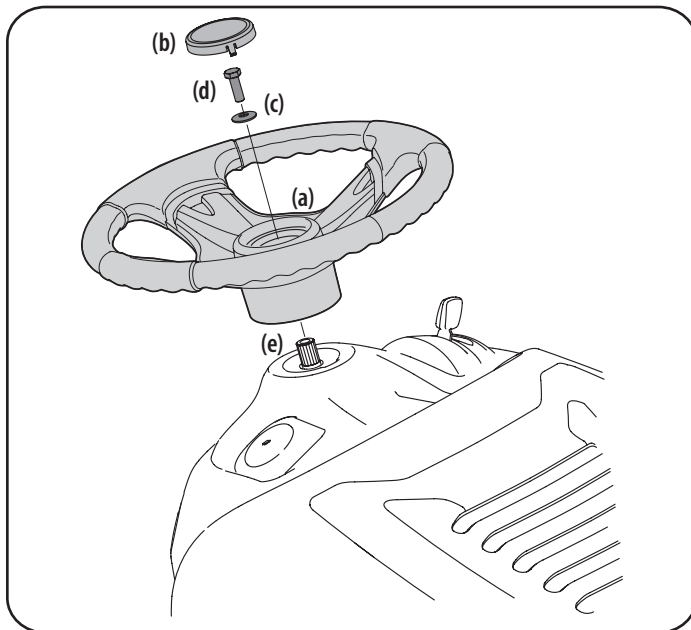

Figure 4
1. If the steering wheel (a) for your tractor did not come attached, the hardware for attaching it has been packed within the steering wheel (a), beneath the steering wheel cap (b). Carefully pry OFF the steering wheel cap (b) and remove the cupped washer (c) and hex bolt (d). See Figure 4.
2. With the wheels of the tractor pointing straight forward, place the steering wheel (a) over the steering shaft (e). See Figure 4.
3. Place the cupped washer (c) -- cupped side down -- over the steering wheel (a) and secure with the hex bolt (d). See Figure 4.
4. Place the steering wheel cap (b) over the center of the steering wheel (a) and push downward until it "clicks" into place. See Figure 4.